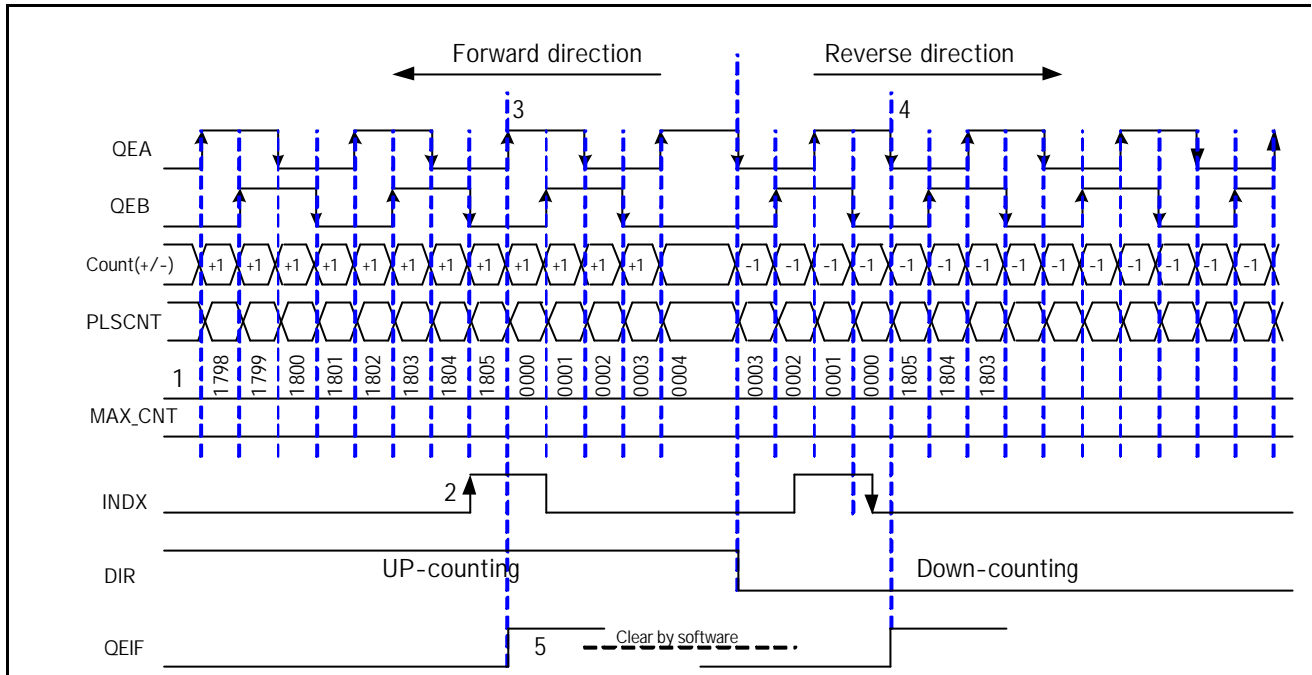

Figure 15-12: QEI timing with INDX input in Free Counting Mode
**1:** PLSCNT register shown at Figure 15-12 diagram is in QEI x 4 counting-modes (PLSCNT increments on every rising and every falling edge of QEA and QEB input signals).